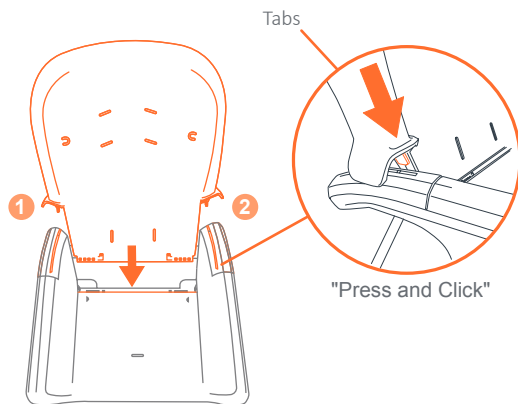

Fig. 5a
- 5) • Insert metal tabs **(1)** and **(2)** directly into the seat base slot until it secures into place. Ensure the backrest sits in the base correctly (Fig. 5a).